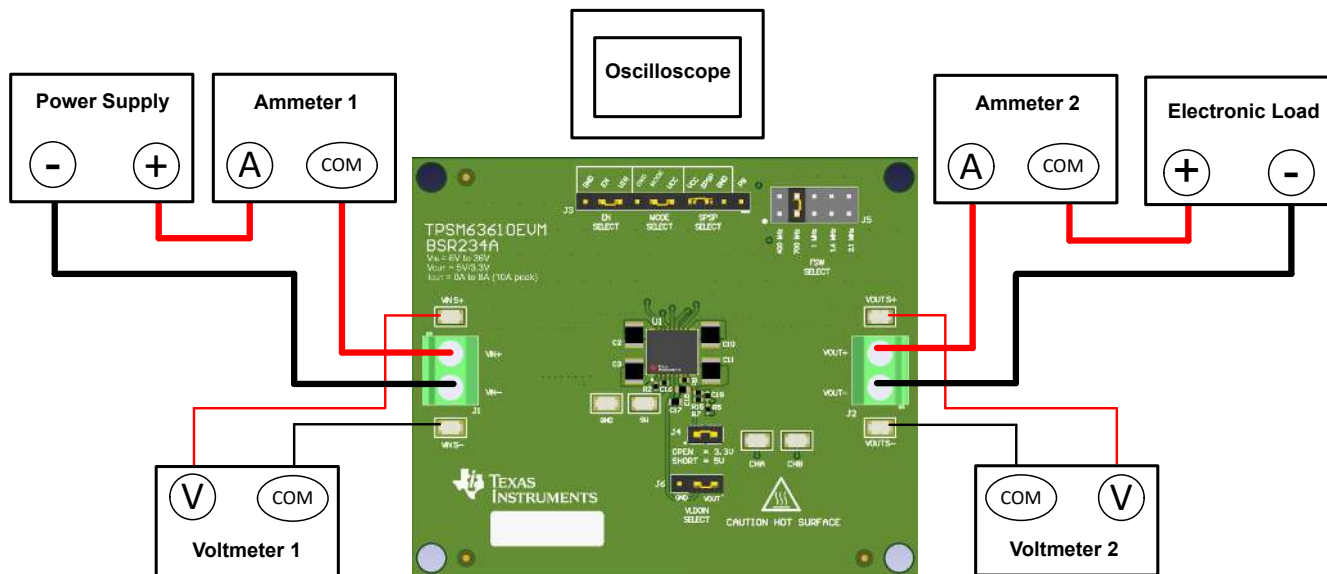

Figure 2-1. EVM Test Setup
| Figure 2-1. EVM Test Setup..... | 5 |
Referencing the EVM connections described in Table 2-1, use the recommended test setup in Figure 2-1 to evaluate the TPSM63610. Working at an ESD-protected workstation, make sure that any wrist straps, bootstraps, or mats are connected and referencing the user to earth ground before power is applied to the EVM.
- Prior to connecting the DC input source, set the current limit of the input supply to 0.1-A maximum. Ensure the input source is initially set to 0 V and connected to the VIN+ and VIN– connection points as shown in Figure 2-1.
- Connect an electronic load to the VOUT+ and VOUT– connections as shown in Figure 2-1. Set the load to constant-resistance mode or constant-current mode at 0 A before applying input voltage.